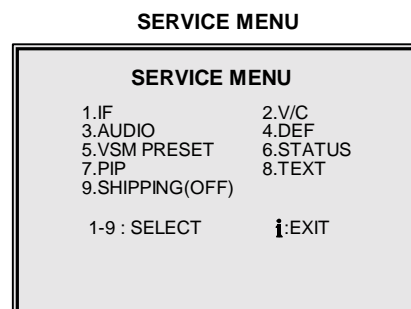

Fig.1
2. As shown in Fig.1, remove the claws marked **C** under the chassis.
3. As shown in Fig.1, while raising the claw marked **D** , remove the top of the AV BOARD slightly in the direction of arrow **E** .
(1) Power off	Switch off the power and disconnect the power plug from the wall outlet.
(2) Replace the memory IC	Be sure to use memory ICs written with the initial data values.
(3) Power on	Connect the power plug into the wall outlet and switch the power on.
(4) Check and set SYSTEM CONSTANT SET	<p>● It must not adjust without adjustment signals.</p> <ol style="list-style-type: none"> 1) Press the INFORMATION key and the MUTING key of the REMOTE CONTROL UNIT simultaneously. 2) The SERVICE MENU screen of Fig. 1 will be displayed. 3) While the SERVICE MENU is displayed, again press the INFORMATION key and MUTING key simultaneously, and the SYSTEM CONSTANT SET screen of Fig. 2 will be displayed. 4) Check the setting values of the SYSTEM CONSTANT SET of Table 1. If the value is different, select the setting item with the FUNCTION UP/DOWN key, and set the correct value with the FUNCTION LEFT/RIGHT key. 5) Press the OK key to memorize the setting value. 6) Press the INFORMATION key twice, and return to the normal screen.
(5) Receive channel setting	Refer to the OPERATING INSTRUCTIONS, and set the receive channels as described.
(6) User settings	Check the user setting items according to Table 2. Where these do not agree, refer to the OPERATING INSTRUCTIONS.
(7) SERVICE MENU setting	Verify what to set in the SERVICE MENU , and set whatever is necessary. For setting, refer to the SERVICE ADJUSTMENTS.
Press the **INFORMATION** key and the **MUTING** key of the REMOTE CONTROL UNIT simultaneously. Then enter the SERVICE MENU mode as shown in Fig.1.